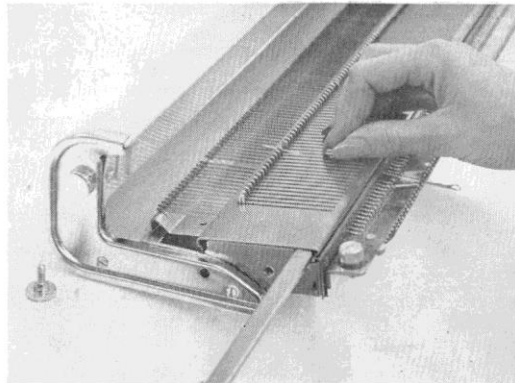

Fig. 3 Fitting a needle.
knurled screws adjacent to the rubber feet, turn the machine over and remove the knurled screws at either end of the case. Pull the Needle Bed forward about $\frac{3}{4}$ in. and slide the Needle Retaining Bar (Fig. 3) from the end of the Needle Bed until it clears the needle which is to be changed. Push the butt of damaged needle forward and lift the shank out of the slot, pulling the needle out backwards. Replace new needle using the reverse procedure, making sure all screws are tight on completion.
The Cam Box runs on the Needle Bed and is held in position by the front and back Rail Guides. The Cam Box controls the tension by means of the Tension Control Dial (Fig. 10) and is equipped with Brushes (Fig. 15) to ensure that the Needle Latches are always open when the wool is fed in by the Wool Inserter (Fig. 7) via the Tension Take-up spring (Fig. 3).
3. Turn the Tension Spring (Fig. 3) upright.